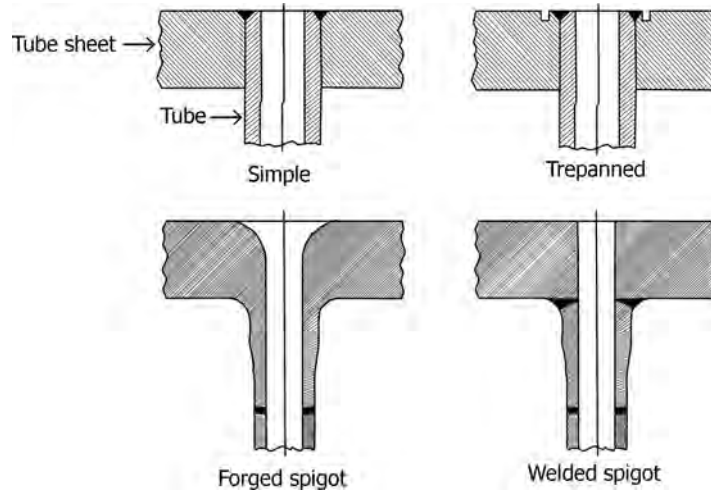

FIGURE 10.10 Different tube-to-tube joints.
- Figure 10.10 illustrates different tube-to-tube joints.